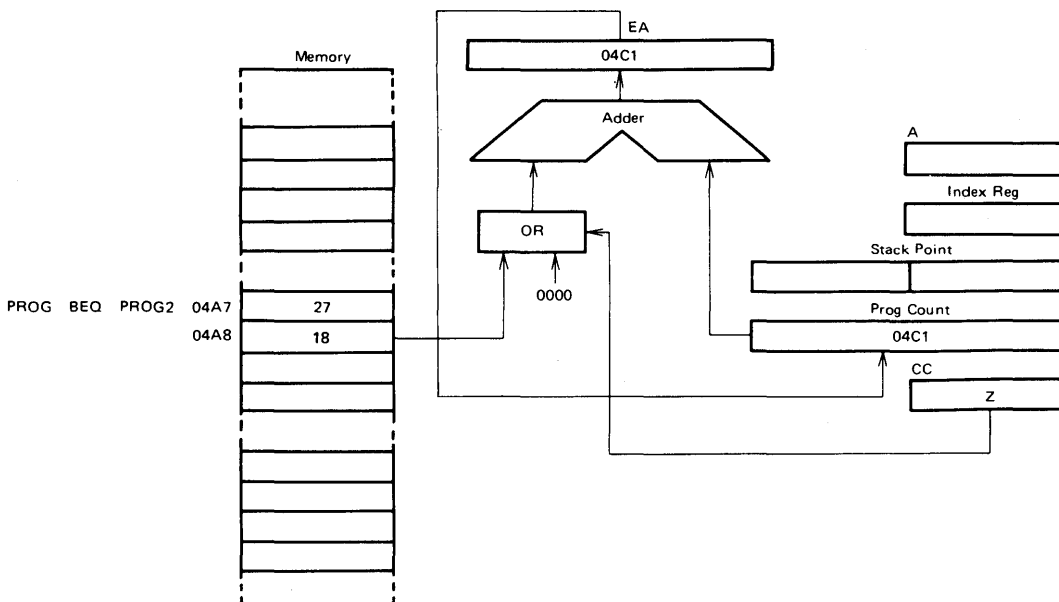

Figure 26 Relative Addressing Example
Refer to Figure 26. The relative addressing mode applies only to branch instructions. In this mode the contents of the byte following the opcode is added to the program counter when the branch occurs.  $EA = (PC) + 2 + Rel$ . Rel shows the contents of the 7-bit signed bit location following the instruction opcode. If branching doesn't occur, Rel = 0. When a branch takes place, the program goes to somewhere within the range of +129 bytes to 126 of the present instruction. These instructions are two bytes long.